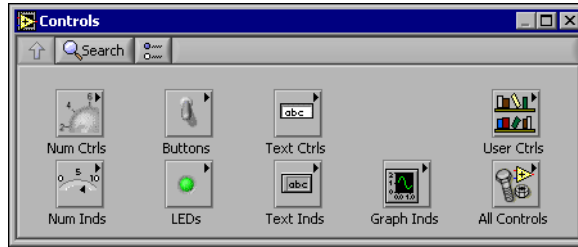

Figure 1-4. Controls Palette
1. If the **Controls** palette, shown in Figure 1-4, is not visible on the front panel, select **Window»Show Controls Palette** to display it.